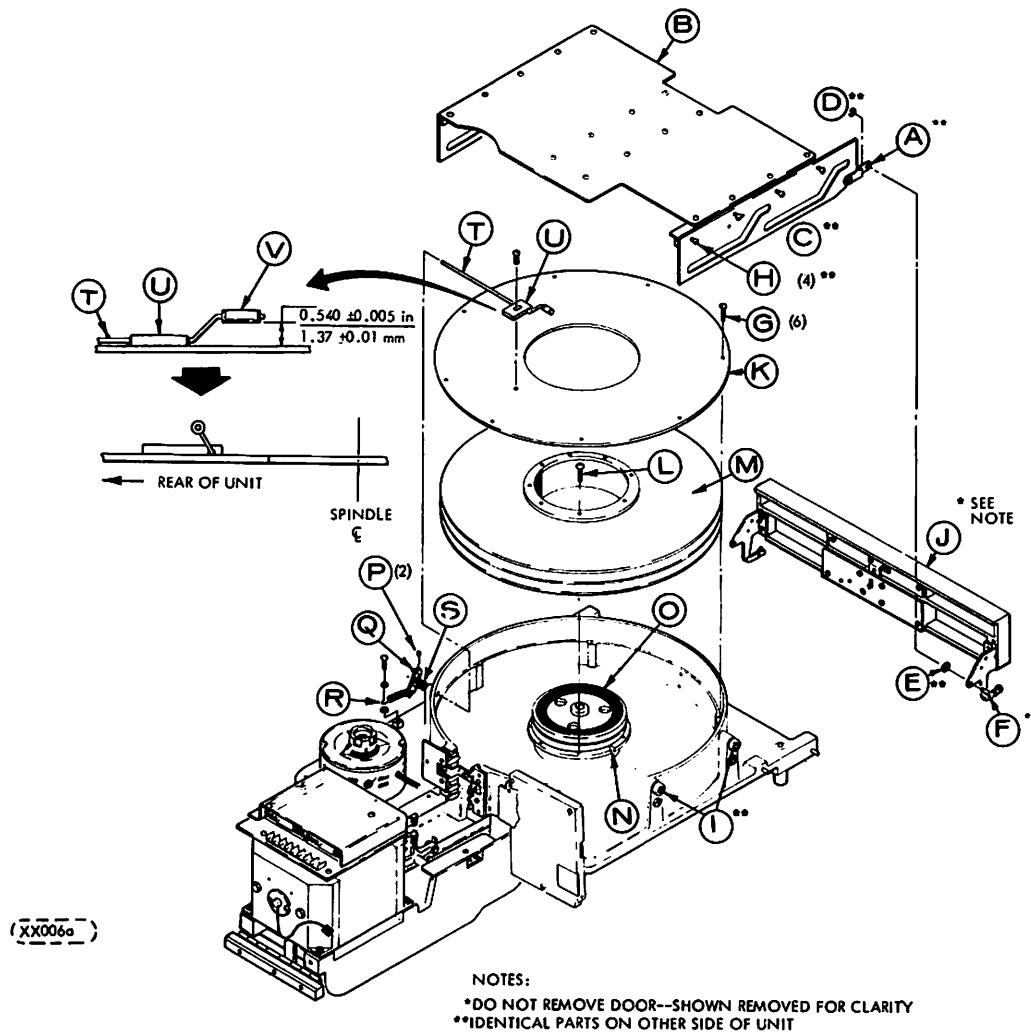
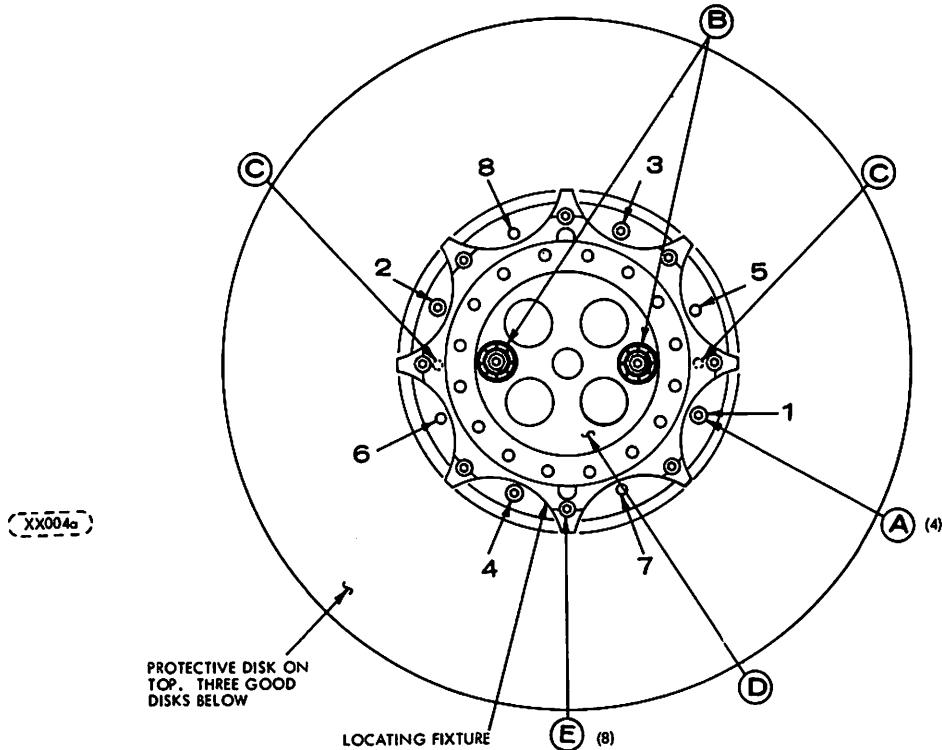

FIGURE 6-8. REMOVAL OF RECEIVER PLATE ASSEMBLY AND FIXED DISK PACK
FIGURE 6-9. FIXED DISK PACK LOCATING FIXTURE AND PROTECTIVE DISK
Refer to Figure 6-8 which illustrates the parts called out in the following description.
10. Close the cartridge access door and watch the pin on cam lever **Q**. Make sure that the pin on the cam lever goes into the groove in a nylon cam block mounted on the inside of the right (as viewed from the front of the unit) cam plate. Make sure that as the access door is opened roller **V** lifts off the surface of the separator plate **K** and ends up 0.540 ± 0.005 inches (1.37 ± 0.01 mm) off the surface of the separator plate, as shown in Figure 6-8.
The following procedure should be followed meticulously when replacing the fixed disk module. Refer to Figures 6-8 and 6-9 for aid in locating parts mentioned in the procedure.
9. Refer to Figure 6-9. To remove the Fixed disk module and locating fixture assembly* from the shipping container, remove the four screws located at (A) and lift the fixture/disk module assembly out using the fixture body as a hand hold. *ON SAME MODULES JUST LOSEN SCREWS*
11. Note the orientation of the plastic pins (C) on the bottom of the fixed module. Place the fixture/fixed pack assembly onto the spindle insuring that the plastic pins fit into the slots (N) in Figure 6-8) on the unit spindle hub. This alignment insures that the holes in the spindle and captivated screws in the fixture at (B) (Figure 6-9) are also aligned. The fixed module hub shall fit firmly against the spindle hub.
12. Start the two screws (B) by hand making certain that they engage correctly with the threads of the corresponding hole in the spindle. Advance the two screws alternately to insure that the plate (D) is kept level relative to locating fixture. Tighten the screws and torque them to 4 lbf-in (0.45 Nm). Rotate the fixture and fixed module and inspect for any large observable radial or axial runout on the fixed module. Close visual inspection of the fixed disks may show a radial runout
**Called "Fixed Pack/Alignment Tool" in parts catalog in Section 7, Figure 6-9 shows top view of pack and alignment tool.*
13. If any excessive runout is observed loosen the two screws **(B)** and re-seat the locating fixture/fixed module assembly on the spindle. When the ball on the bottom of the fixed pack properly seats in the counter-sunk hole in the top of the spindle shaft the radial and axial runout shall be within the limits defined in item 12 above.
14. Install the 8 screws **(L)** (Figure 6-8) which were removed in step 8. Install these in the holes marked 1 through 8 in Figure 6-9. Tighten these 8 screws in numerical order and in the torque steps specified. Torque the 8 screws in numerical order using 4 lbf-in (0.45 Nm). Repeat the sequence using 7 lbf-in (0.8 Nm) and then again using 10 lbf-in (1.13 Nm).
17. Disengage the two captive screws **(B)** (Figure 6-9).
18. Remove the 8 screws **(E)** which fasten the fixture to the fixed module (Figure 6-9).
20. Replace the separator plate **(K)** (Figure 6-8) back into the unit as soon as possible. Replace and tighten the 6 screws **(G)** that secure the separator plate.
21. Install the locating fixture to the removed fixed module if available using the 8 screws at **(E)** (Figure 6-9).
22. Install the fixture and removed fixed module into the container and secure using the 4 screws at **(A)** (Figure 6-9).
25. Replace the receiver plate assembly (**B**, Figure 6-8) per Section 6.7.6.2. However, do not replace the top cover as called out in that section.
3. Using a clean piece of lint free cloth dampened in media cleaning solution, carefully clean the spindle, giving particular attention to the reference surfaces to which the fixed disk module and cartridge are mounted. Clean the receiver plate (Item K Figure 6-8) and wipe all surfaces of the shroud clean of dirt and smudges.